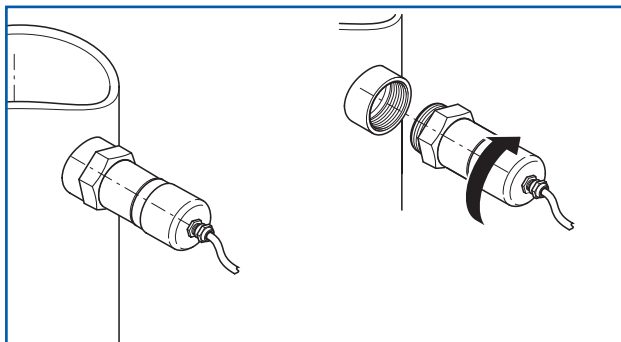

Fig. 3: Thread mounting
- With a G 1½" pipe socket (Fig. 3)